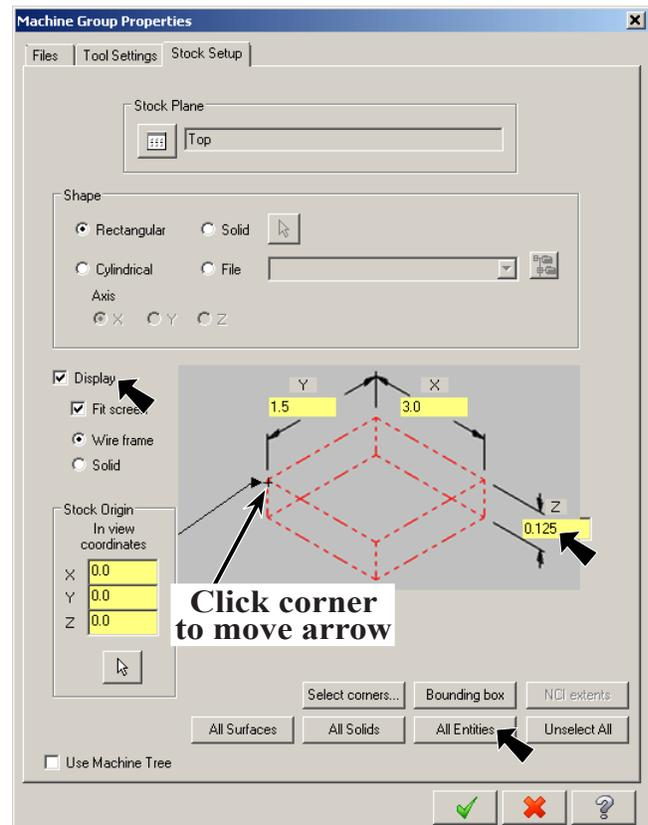

Fig. 2
Step 7. Click **left front top corner** of the stock to move the origin, **Fig. 2**. After you click corner the arrow will point to corner.
Step 8. Click **All Entities box** button in the Stock Setup dialog box, **Fig. 2**.
Step 9. Set **Z dimension .125**, **Fig. 2**.
Step 10. Confirm **Display** check box is checked, **Fig. 2**.
Step 11. Click OK  in Machine Group Properties, **Fig. 2**.